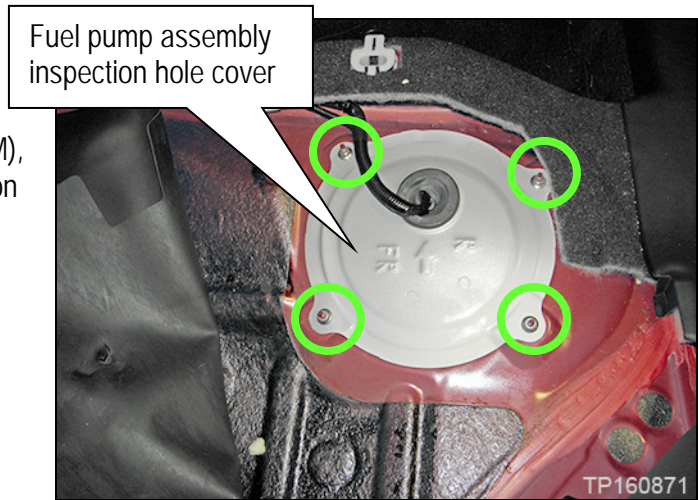

Figure 1
2. Remove the four (4) inspection hole cover nuts shown in Figure 1.